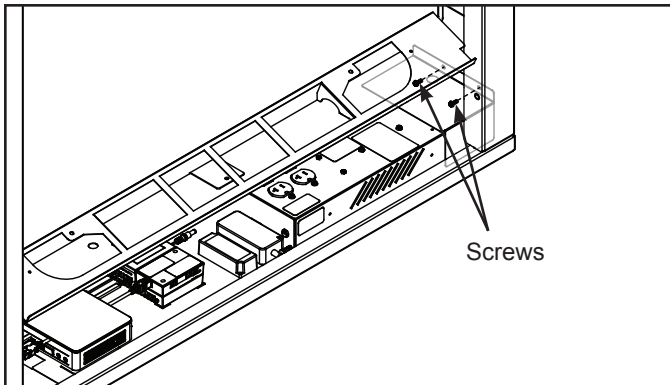

Figure 3.12 Termination Cover Screws
3. Remove the termination cover plate on the right wall of the control cavity by removing the two (2) Phillips screws, and lifting up and away from the control cavity. See Figure 3.12 and 3.13.